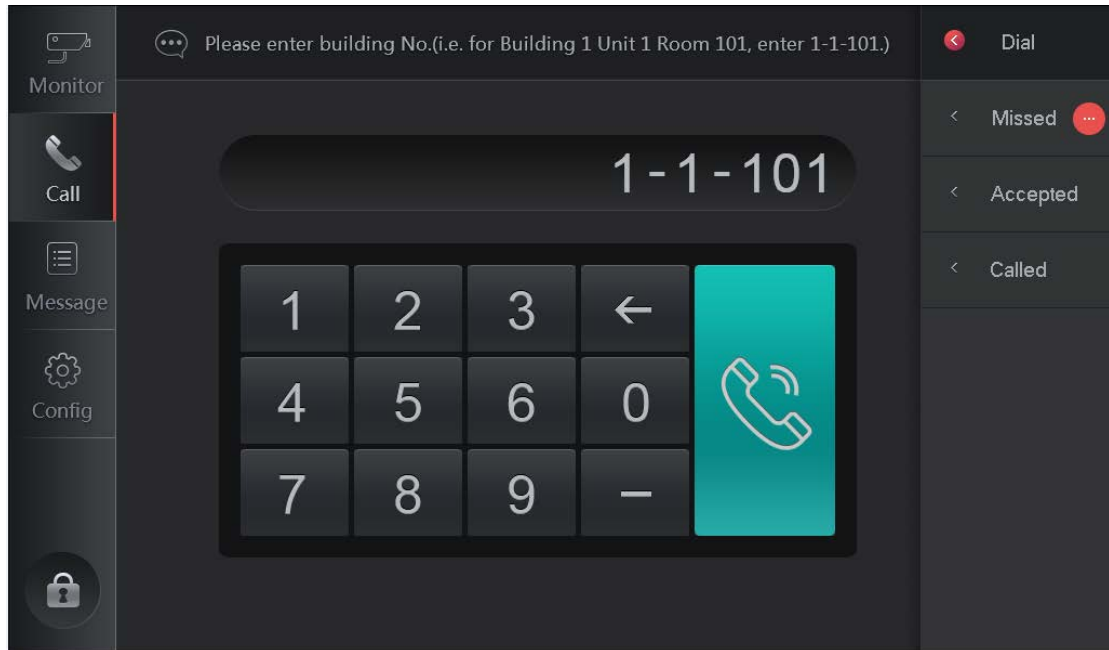

Figure 4-5
Step 1. Select Call>Dial, see Figure 4-5.